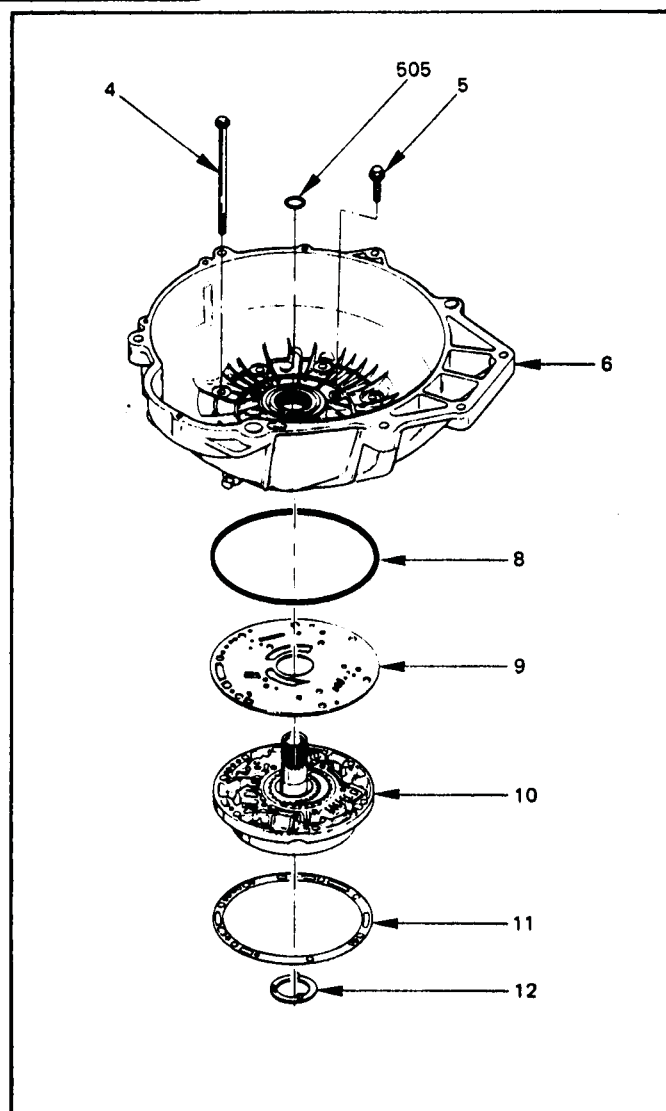

Figure 54
5. Install oil pump wear plate as shown in Figure 54.
14. Install oil pump "O" ring seal, pump to adapter case gasket, and selective thrust washer (See Figure 54).